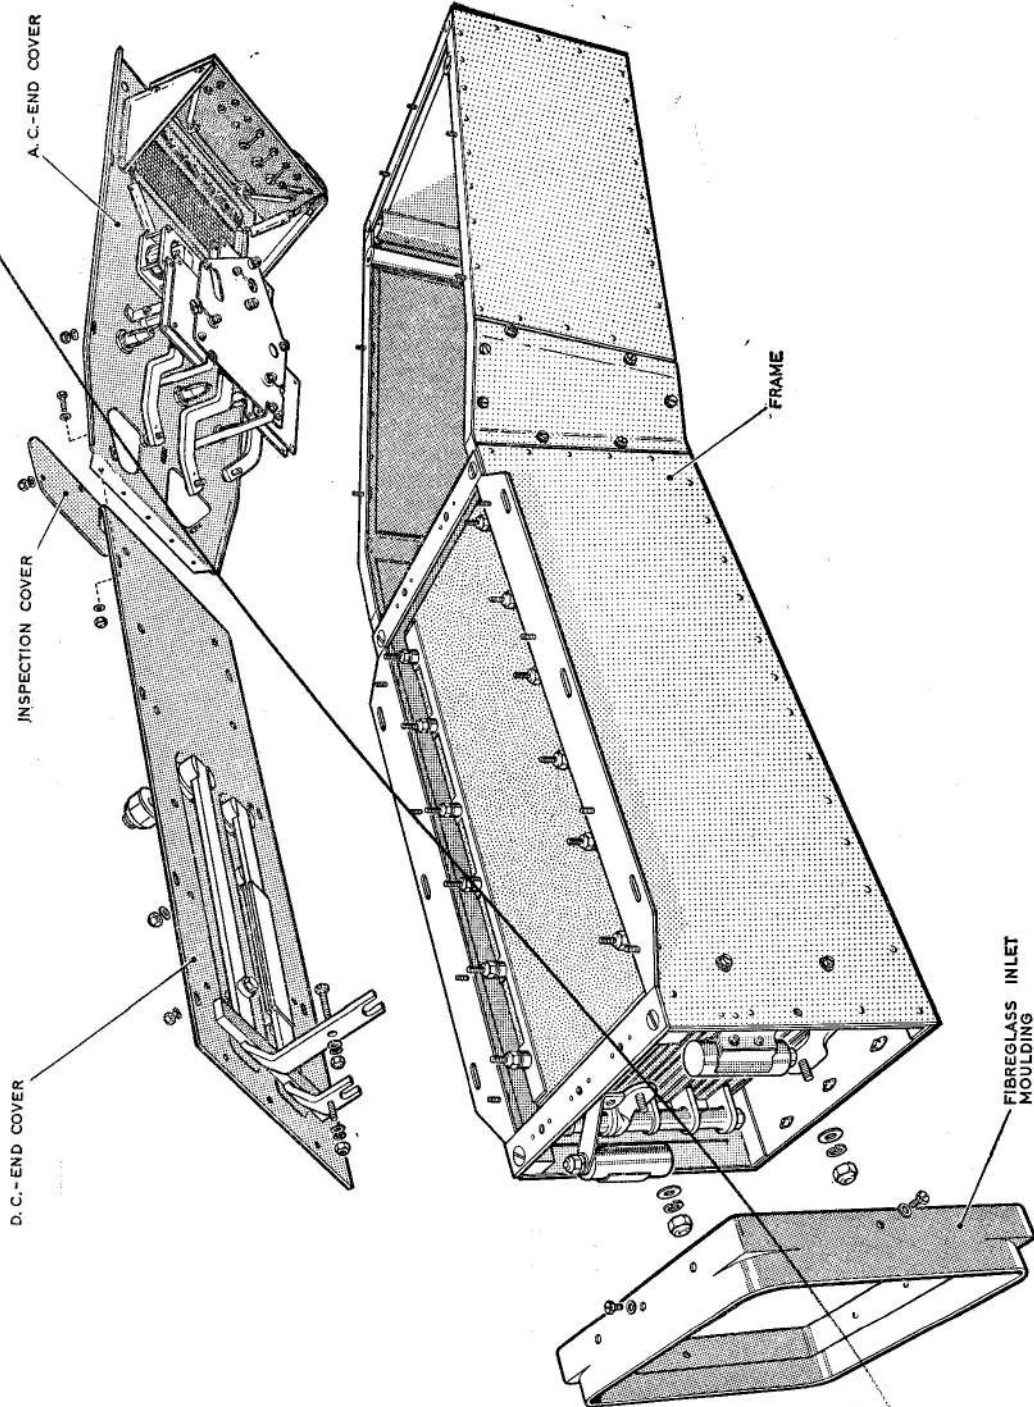

Fig. 3. Exploded view
10. Reference should be made to fig. 3 which shows an exploded view of the control box. It should not be necessary to dismantle the unit completely, normally dismantling should be stopped at the stage necessary for the renewal of unserviceable parts to be made.
12. (1) Unscrew the eight 4 B.A. screws securing the inlet moulding on the end frame and remove the moulding.